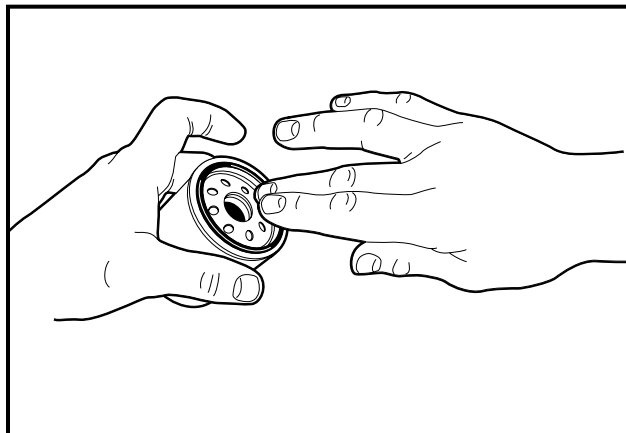

Figure 24 Coat Rubber Seal
12. To help seal the new oil filter to the oil filter mounting bracket, apply a light coat of white lithium NLGI Number 2 grease (Dow Corning® BR2-Plus or equivalent) or new engine oil to the rubber seal around the outside surface of the filter before attaching it to the oil filter port (**Figure 24**). Install the new oil filter (CCI P/N 1016467) onto the engine oil filter port. **See following NOTE.**